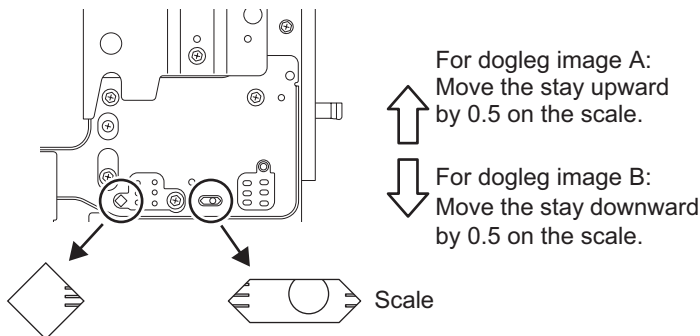

Fig. 3-157
- (1) Check the scale position. (See Fig. 3-157.)
- (2) Loosen 2 screws so that the fuser unit and its lower stay can move.
- (3)